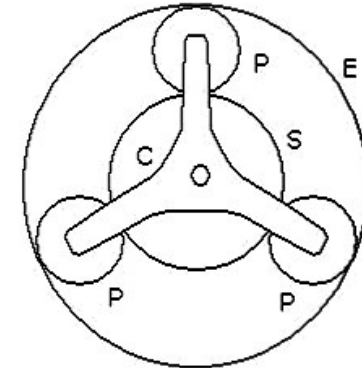

Figure 8
- (b) An epicyclic gear train consists of a Sun wheel S, a stationary internal gear E and three identical planet wheels P carried on a star-shaped planet carrier C as shown in figure 8. The sizes of different toothed wheels are such that the planet carrier C rotates at 1/5 of the speed on the sun wheel S. The minimum number of teeth on any wheel is 16. Determine the number of teeth on different wheels of the train